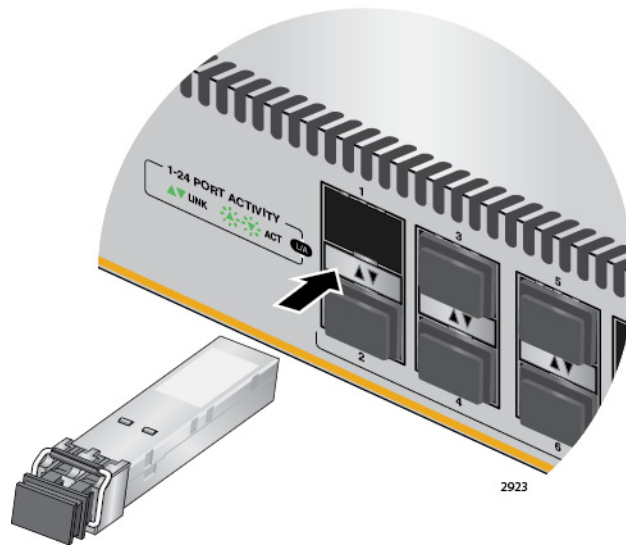

Figure 23. Installing an SFP Transceiver
4. Slide the transceiver into the slot until it clicks into place, as shown in Figure 23 on page 72.